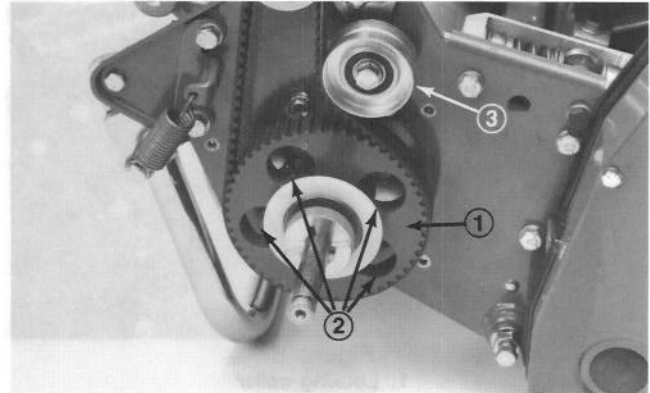

Figure 10
6. Rotate drive pulley until holes align with (4) roller bearing flange screws (Fig. 10).
7. Loosen (4) roller bearing screws and screw securing idler pulley. Raise or lower right side of roller assembly until the gap is reduced to less than .010". Retighten the roller bearing screws. Adjust belt tension and tighten idler pulley mounting screw (Fig.10).